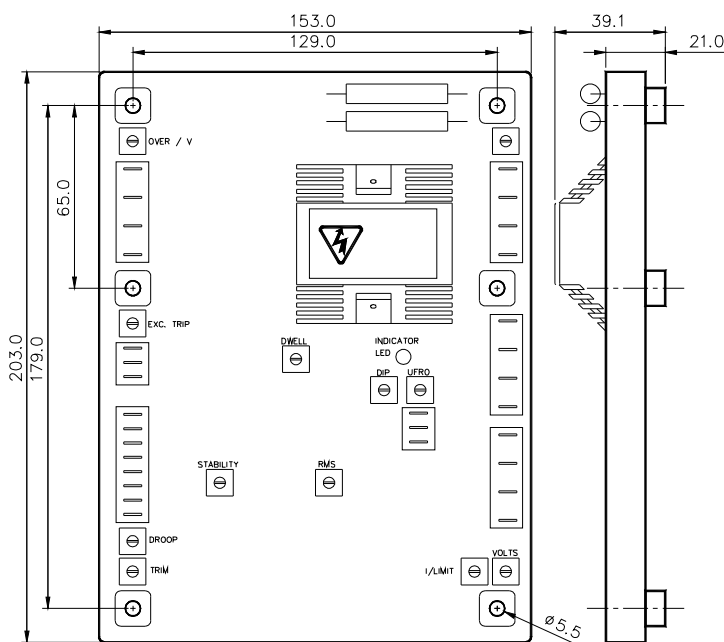

Figure 1 Outline Drawing UNIT : mm
1. AVR can be mounted directly on the engine, genset, switchgear, control panel, or any position that will not affect operation. For dimension reference, please see Figure 1.